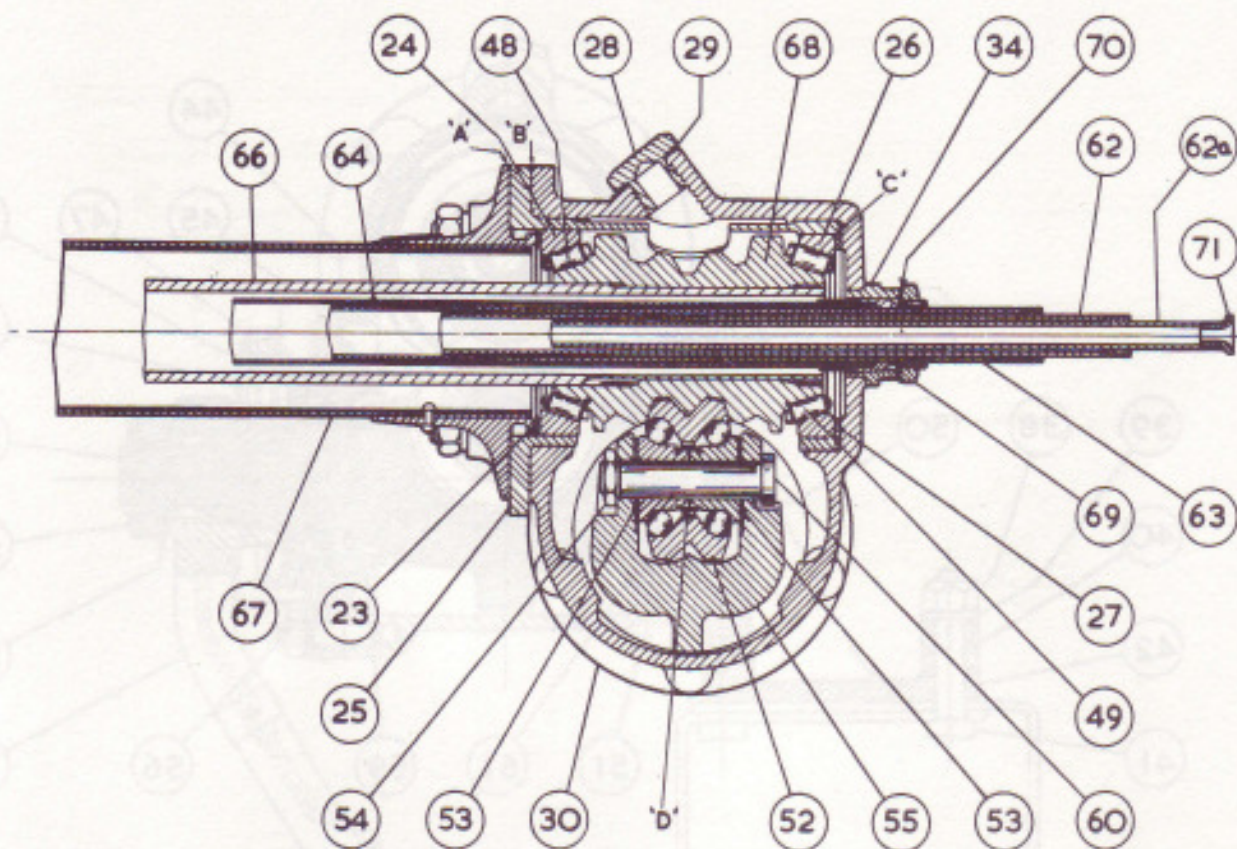

FIG. 9. SECTION THROUGH CAM AND ROLLER.
- (ii) It will be observed upon reference to Fig.9, that the inner race of the cam roller assembly is in two halves, held together by a
- (a) With all parts in a perfectly clean condition, lightly smear with grease the two outer machined diameters of the adjusting sleeve and fully enter it into position in the steering box, i.e. so that the two faces at point 'B', Fig.9, make contact.
- (b) Lightly smear with grease the original lower adjusting washer (27) and with the steering box in a vertical position, place in position in the bottom of the box. If two adjusting washers were found to be fitted, then the thinner of the two washers must be fitted so that it is adjacent to the lower face of the lower bearing cup (26), because if the thinner washer was fitted behind the thicker washer, there would be a risk of it being trapped behind the gap (i.e. at point 'C', Fig.9) which exists between the inner end of the adjusting sleeve and the lower inner end of the steering box.
- (c) Fit the lower bearing cup (26) in position against the adjusting washer/s taking care not to disturb the position of the latter for the reason explained.
- (ii) Place one of the two roller and cage assemblies (49 or 48) on to the lower bearing cup, and then place cam tube assembly on to the roller bearing. Place the other roller and cage assembly on to the cam and push or lightly tap the other bearing cup (24) squarely into position in the adjusting sleeve and on to the roller bearing.
- (iii) Select an adjusting washer (23) from the range available, too thick to enable the flange of the steering column to be pulled right down on to the adjusting sleeve. Place the adjusting washer (two washers can, if necessary, be fitted) against the outer face of the upper bearing cup (24) and then place steering column into position.
There should now, at this stage, be a gap at point 'A', Fig.9, i.e. between the face of the flange of the steering column and the adjusting sleeve. It is possible, however, for the adjusting sleeve to "lift", creating the gap at point 'B', but this must be avoided, otherwise the lower adjusting washer/s (27) could slip out of position and become trapped at point 'C'. If there is no
It will have been noticed that the tightest meshed position extends over possibly half a turn of the steering wheel. By suitably rotating the steering wheel, determine how much it has to be turned to move it from the straight ahead position to the centre of the tightest meshed position. If the tightest meshed position is to the right of the straight ahead position (turning the steering wheel to the right), a thinner adjusting washer/s (27, Fig.9) should be fitted to the lower roller bearing; if to the left, then a thicker
- (a) Measure with feeler gauges the gap at two opposite points between the adjacent flange faces of the adjusting sleeve and the steering column flange (i.e. at point 'A', Fig.9) and make a note of the average gap.
- (e) Average gap at point 'A', Fig.9, say 0.041" (1.04 mm)